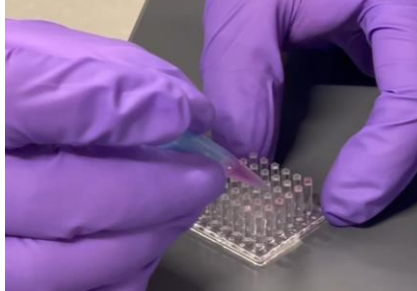

Figure 2. Loading Matrigel on the pillar plate using a 1 mL pipette tip with Matrigel.
11. Gently tap the 1 mL pipette tip with Matrigel in the center of the pillar to load Matrigel while blocking the large open area of the tip using the index finger (**Fig. 2**).